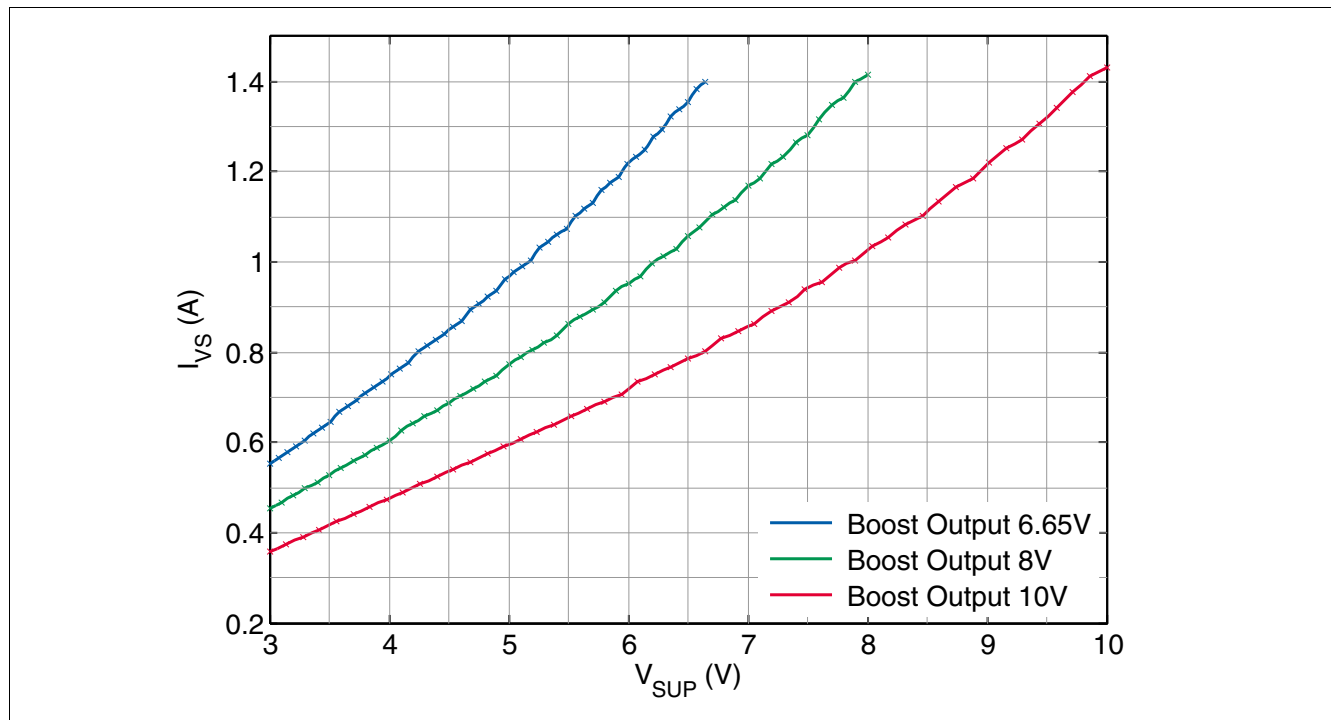

Figure 14 Maximum DCDC boost current capability versus V_{SUP} .
- 3) Values verified in characterization with boost converter specified in Chapter 15.1. Not subject to production test; specified by design. Refer to Figure 14 for additional information.
Note: **Figure 14** is based on simulation results (specified by design), with boost converter external components specified in **Chapter 15.1**.